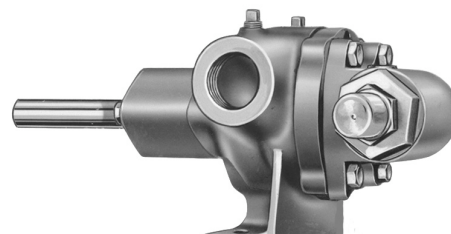

FIGURE 1 - G Size Unmounted Pump
This manual deals only with Series 32 and 432 General Purpose Pumps. Refer to Figures 1 thru 12 for general configuration and nomenclature used in this manual. Pump specifications and recommendations are listed in Catalog Section 310, Series 32 and 432 General Purpose Pumps.
4. Relief valve adjusting screw cap must *always* point towards suction side of pump. If pump rotation is reversed, remove pressure relief valve and turn end for end. Refer to Figures 1, 2, 3 and 4, page 1.